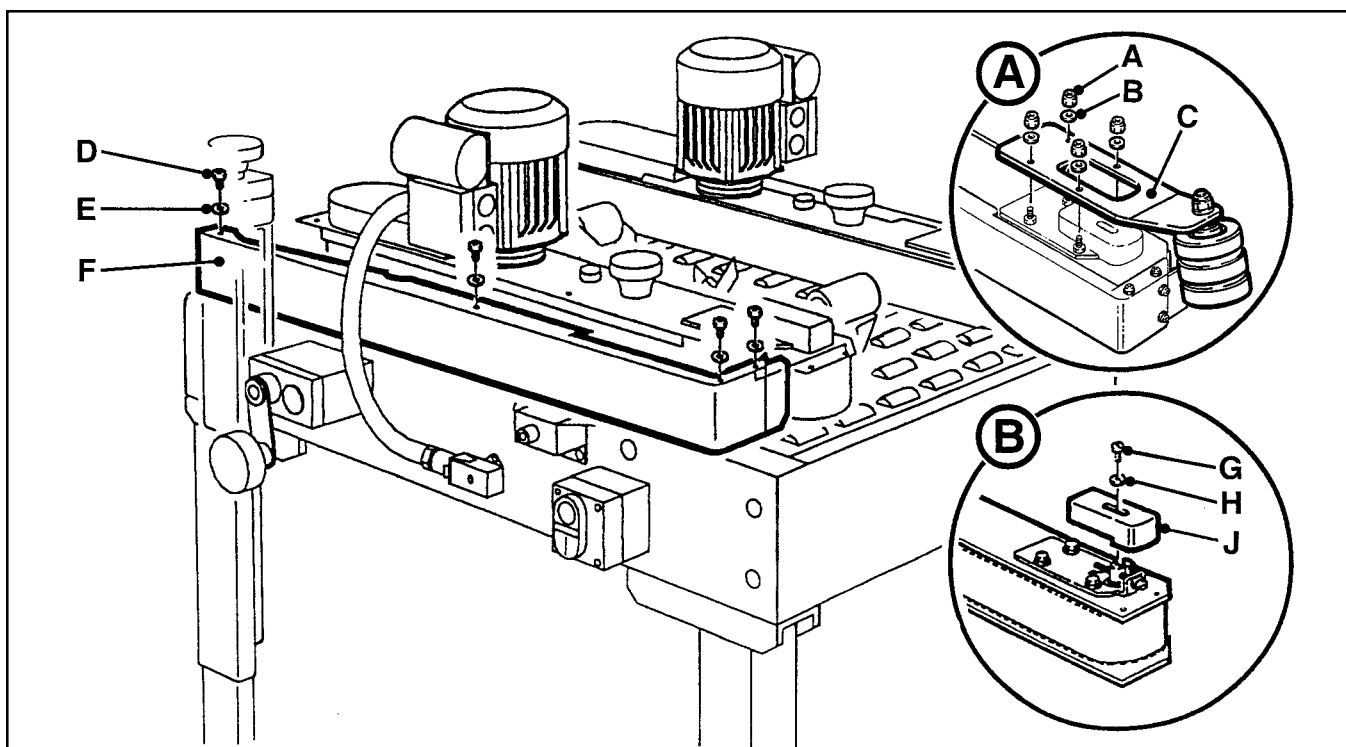

Figure 4-2 – Box Drive Belt (Left Side View – Infeed End)
3. Remove and retain the four screws (D), four washers (E) and side cover (F) as shown in Figure 4-2.